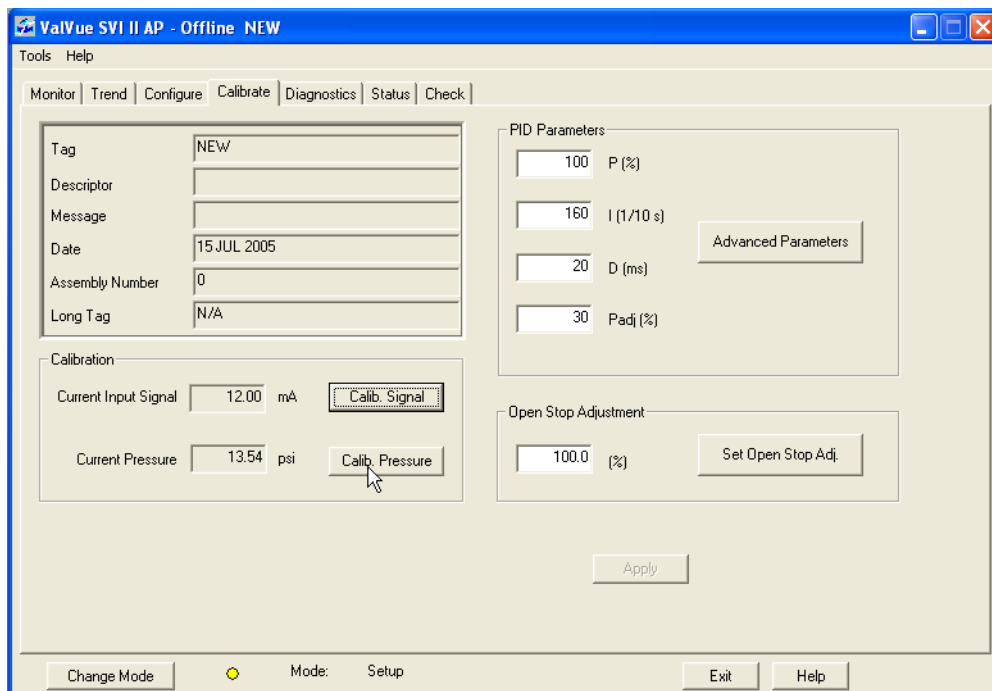

Figure 101 Starting Pressure Calibration
1. Click **Calib. Pressure** (Figure 101).